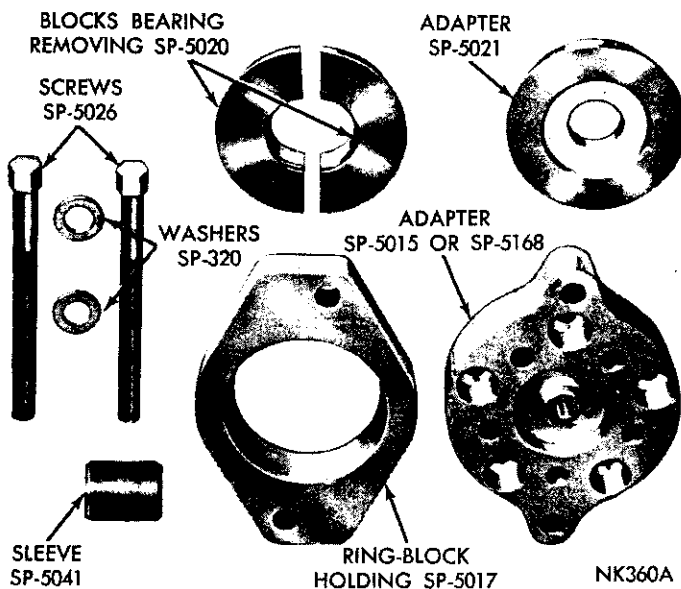
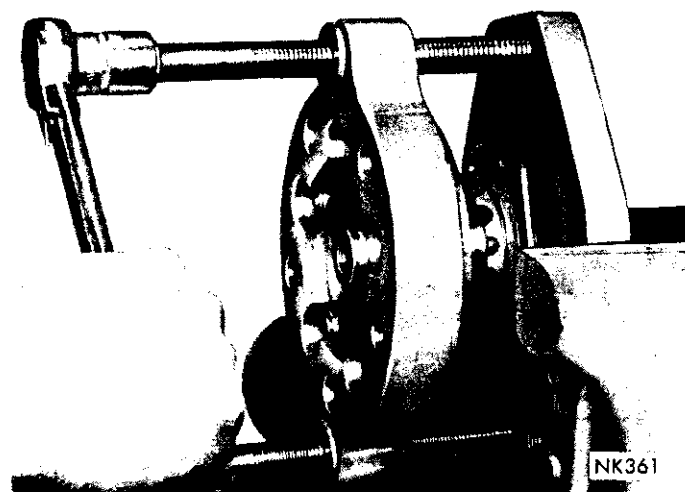

Fig. 3—Tool Set C-3971
Fig. 12—Removing Bearing Cone with Tool C-3971
(3) Remove parking brake strut.
(4) Attach axle shaft remover Tool C-3971 (Fig. 3) to axle shaft flange and remove axle shaft. Remove brake assembly and gaskets.
(Fig. 3). Tighten bolts of tool alternately until cone is removed (Fig. 12).